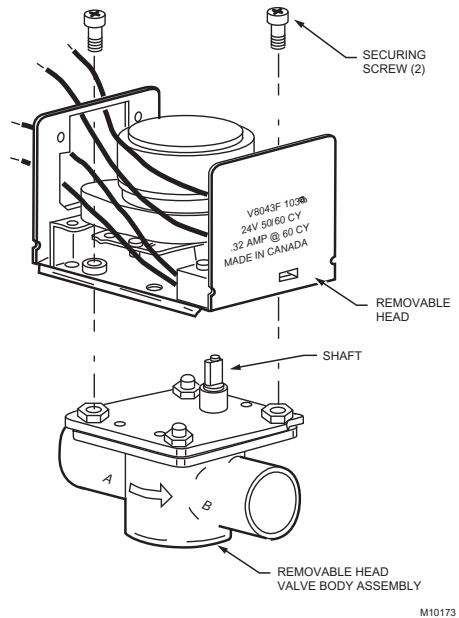

Fig. 6. Install new powerhead.
- d. Remove the two screws securing the powerhead to the valve body (Fig. 6).
4. Install the new powerhead (see Fig. 6):